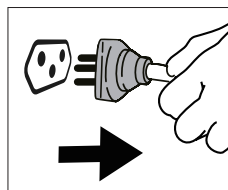

Fig. 24
3. Desconecte as tomadas [Fig. 24].